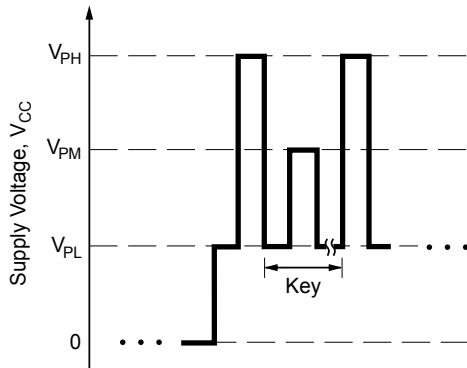
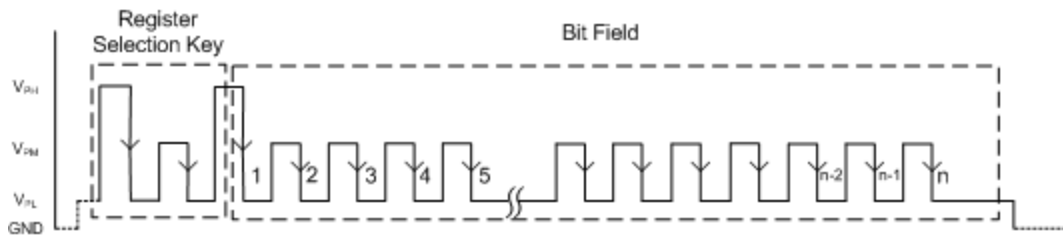

Figure 5. Register selection pulse sequence
Figure 11. Example of Try mode pulse sequence, Register Key = BOP selection down counting
Register Selection Each programmable parameter can be accessed through a specific register. To select a register, a sequence of voltage pulses consisting of a V_{PH} pulse, a series of V_{PM} pulses, and a V_{PH} pulse (with no V_{CC} supply interruptions) must be applied serially to the VCC pin. The quantity of V_{PM} pulses is called the *key*, and uniquely identifies each register. The pulses for selection of register key 1, is shown in figure 5. No V_{PM} pulse is sent for key 0. The register selections are shown in table 2.
When setting the B_{OP} Trim parameter, as an aid to programming, values can be traversed from low to high, or from high to low. To accommodate this direction selection, the value of the bit field (and code) defaults to the value 1, on the falling edge of the final register selection V_{PH} pulse (see figure 5). A complete example is provided in figure 11.